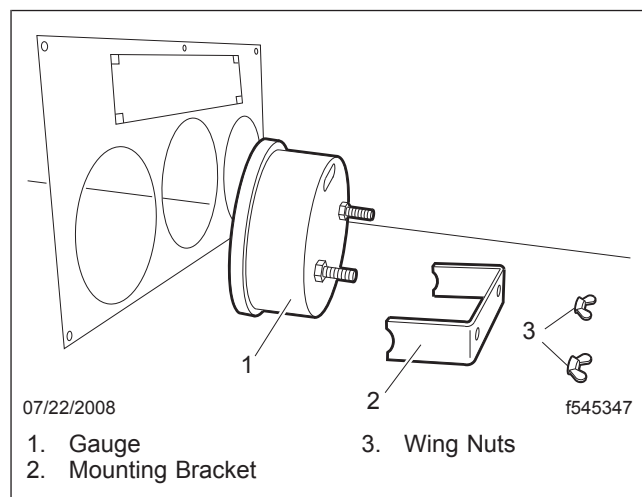
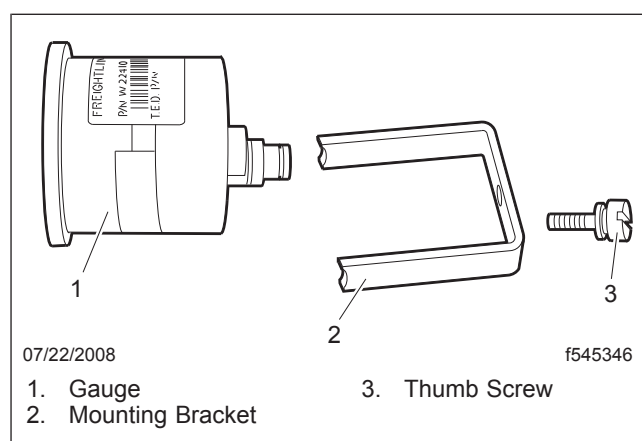

Fig. 1, Wing Nut Mounted Gauge
Fig. 2, Thumb Screw Mounted Gauge
3. Remove the two wing nuts or the thumb screw that secure the bracket to the gauge; remove the gauge. See Fig. 1 and Fig. 2.